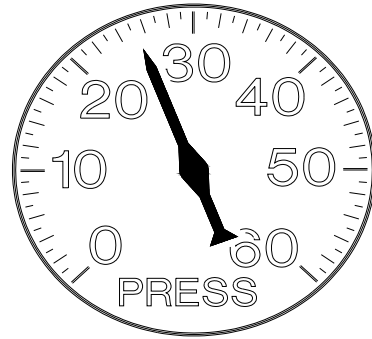

Figure 10
5. With the nozzle closed, a normal pressure reading is over 30 pounds per square inch pressure. See Figure 10.